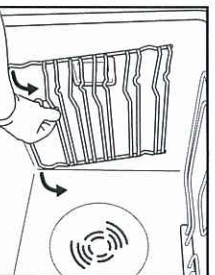

Fig. 3
1. Remove the side accessory holder grilles (Fig. 3).
2. Remove the side accessory holder grilles, if present (Fig. 3).